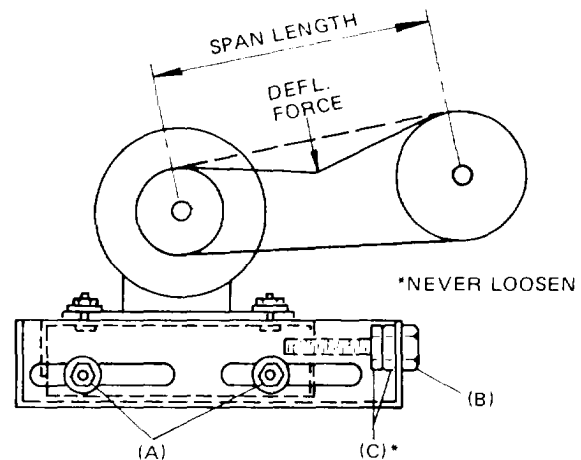

FIG. 15 — TYPICAL MOTOR MOUNTING ASSEMBLY
4. The tension on each belt shall be adjusted per the following procedure. See Figure 15.
- a. Loosen two nuts (A).
- b. Adjust by turning (B).
- c. Never loosen nuts (C).